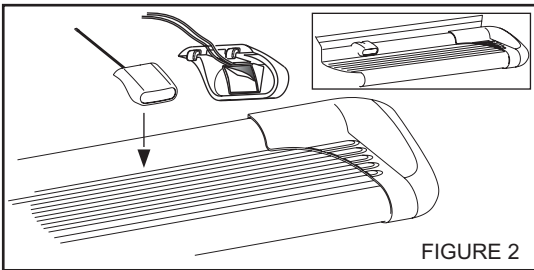
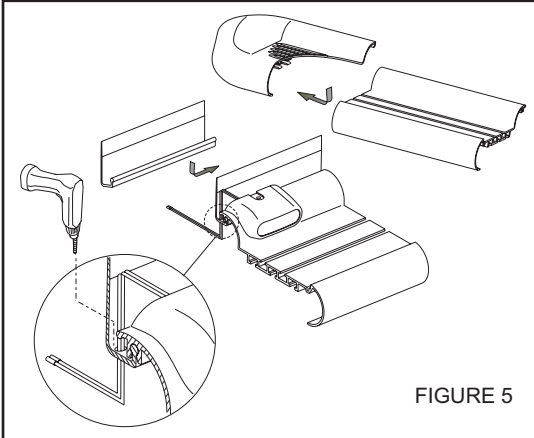

FIGURE 2
FIGURE 5
- STEP 5.** For Sure-Grip Running Boards, slide closure strip as shown. Set lights (if purchased) in appropriate location. Attach to Sure-Grip Running Board as shown. **SEE FIGURE 2.** Drill hole through plastic strip and run wires as shown. **SEE FIGURE 5.**